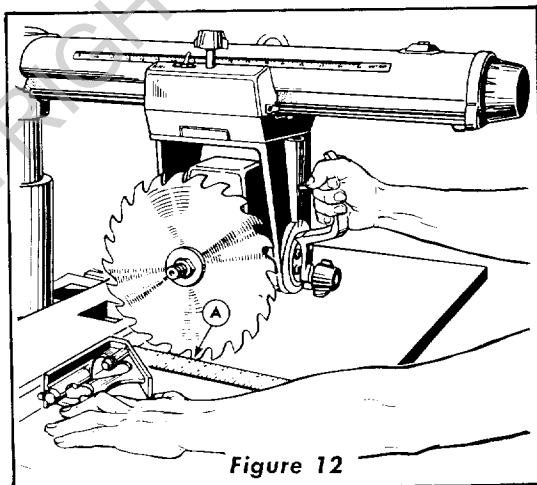

Figure 12
2. Lay combination square against fence as shown in Figure 12 and position until it just contacts a blade tooth (See A, figure 12). Mark this tooth.
- d. Slightly move radial arm in proper direction to make saw tooth "A" (Figure 12) follow edge of square when checking.